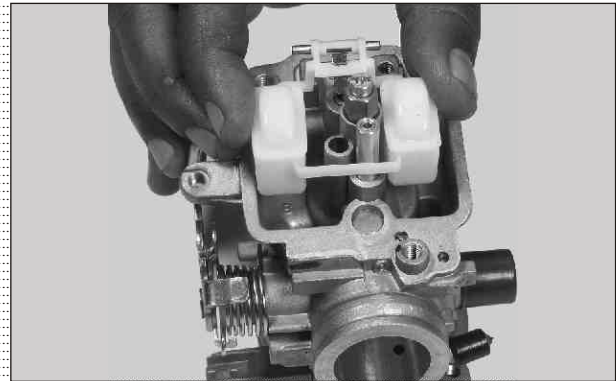

Fig. 4.24
- Separate float assembly, pin float and the needle valve assembly. (Fig. 4.24)